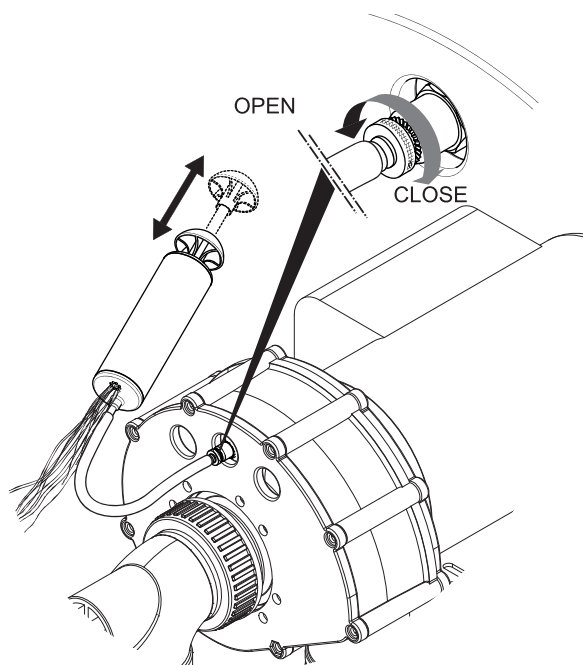

Figure 8 - Priming Pump
1. Remove the top cover from the BaduJet Inspiration. There are two (2) #10-24 phillips head screws securing the cover to the base.
2. Locate the hand pump (part# 57). Attach the tube of the hand pump to the air purge valve on the pump. (See Figure 8)